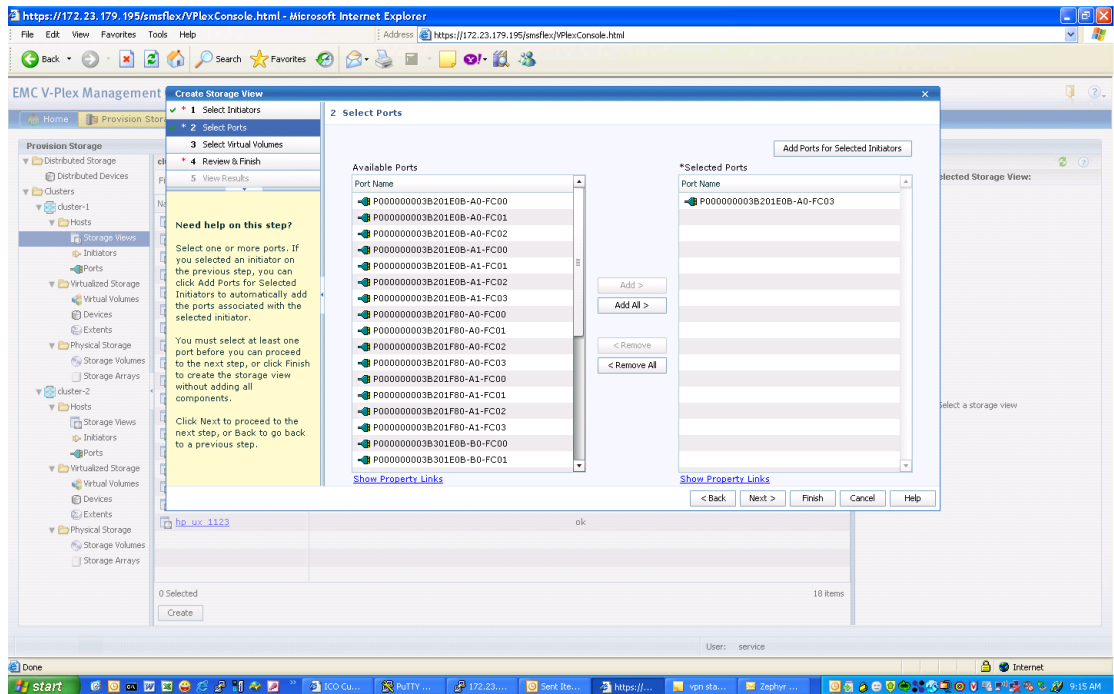

Figure 21 Add ports to storage view
3. Adding ports to the storage view, as shown in Figure 21.